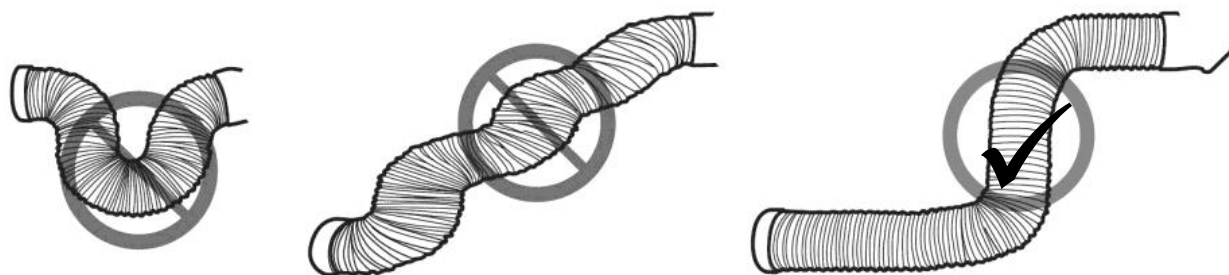

Fig. 8
- Do not over extend or twist the exhaust hose (fig. 8).